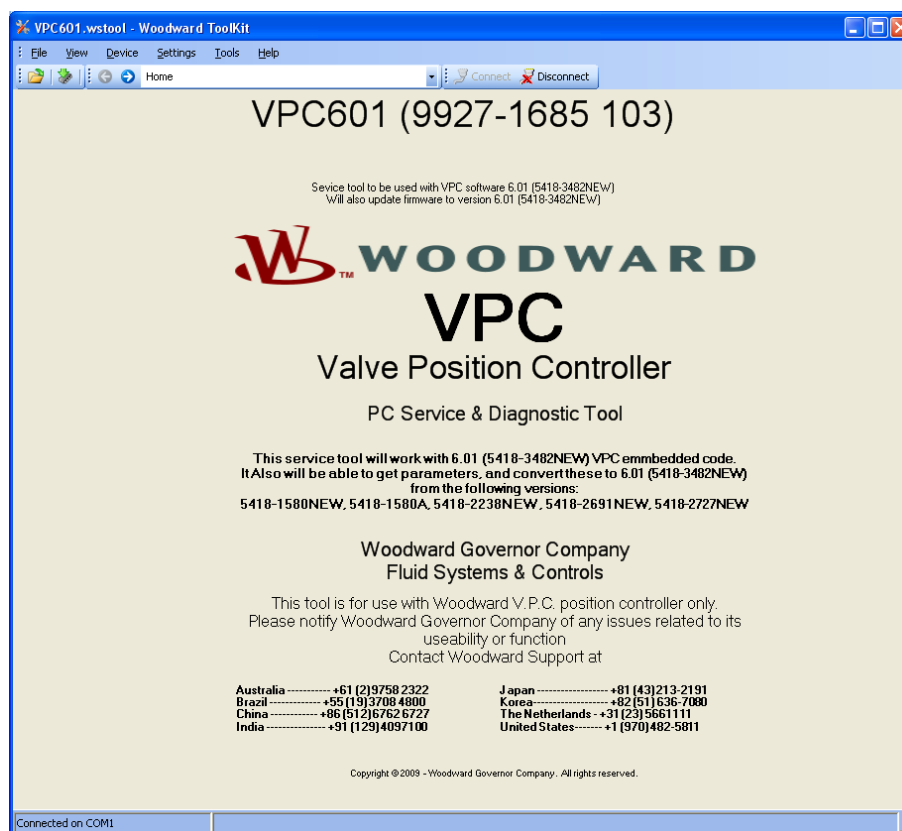

Figure 4-1. VPC Title Page
The VPC title page is displayed as the tool is launched from a PC. The title page of the VPC Service Tool contains important information about the version of the Service Tool and the Firmware suitable to be controlled and monitored using the Service Tool. It also provides information to contact Woodward Technical Support for assistance (Figure 4-1).
**Home** - Displays the service tool and its supported software (Figure 4-1).